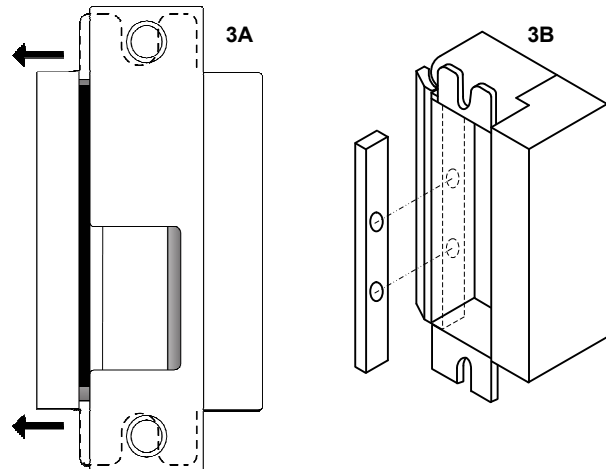

FIG. 4 FRAME PREPARATION – 55 Electric Strike
2. For proper frame preparation, refer to template drawings, **Fig. 4 & 5, page 4**.